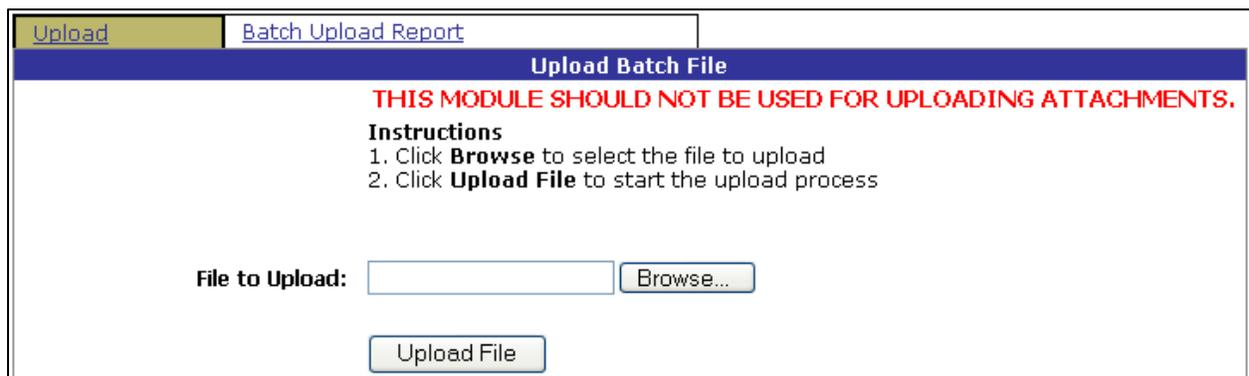

Figure 1.2
- b. The user is then directed to the “**Upload Batch File**” menu as displayed below (Figure 1.2).